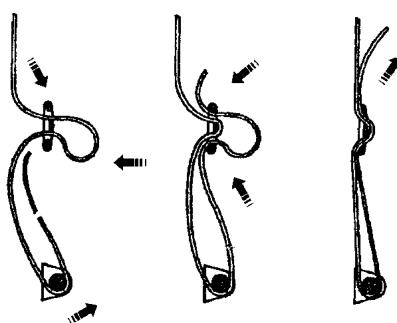

Fig 4
- Mounting air hose. Insert the air hose tightly in the connections on the machine and the spray gun (**Fig. 4, a + b**). The connections can be positioned as desired.